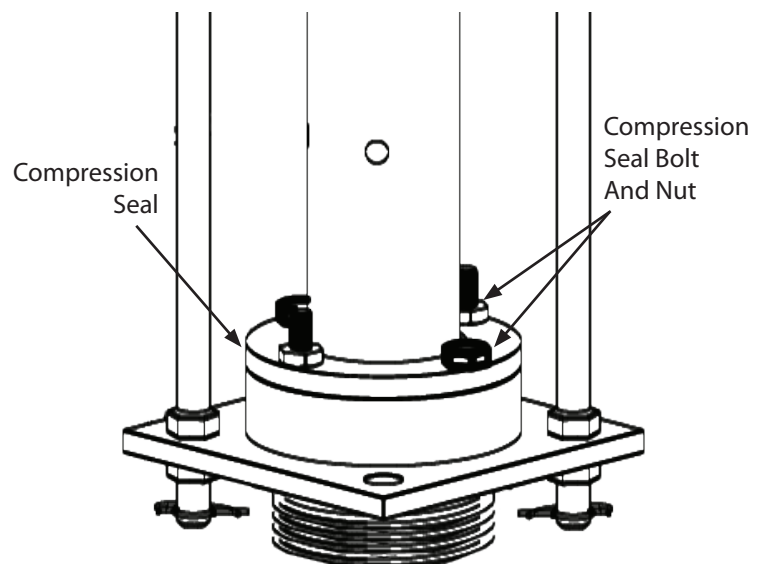

Figure 16: Compression Seal Bolts
2. Tighten the compression seal bolts and nuts just enough to stop any leaking from the seal. See Figure 16.